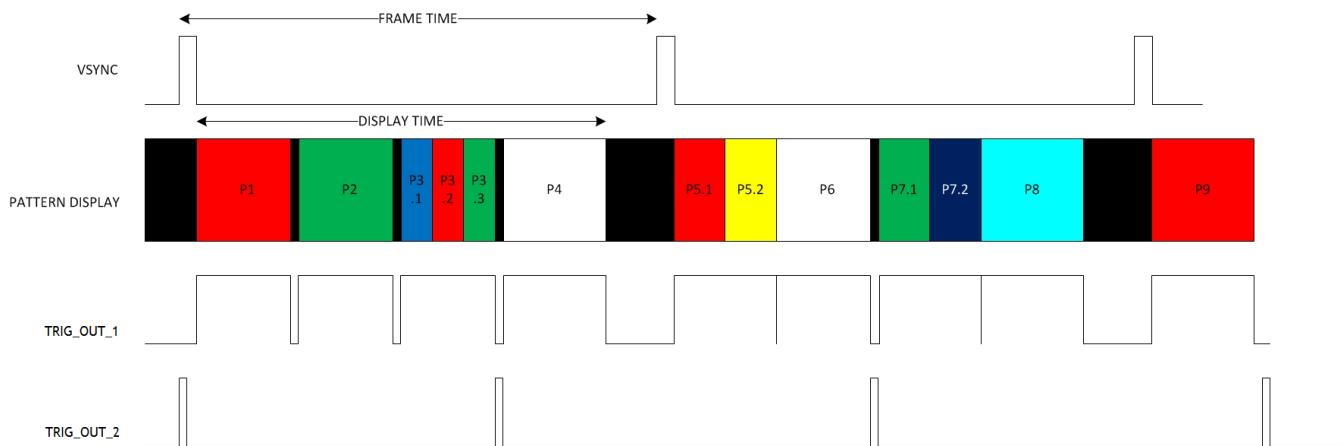
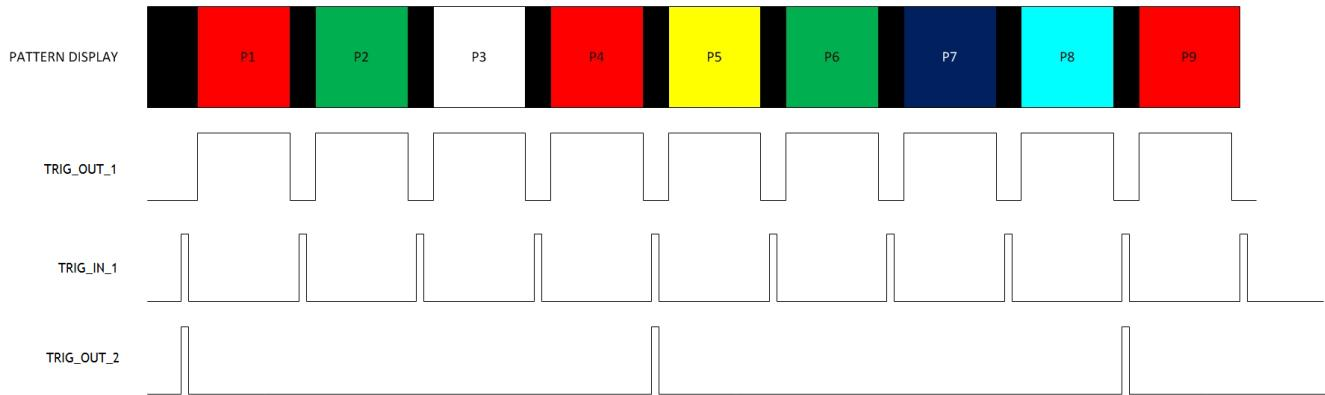

Figure 3-7. VSYNC Pattern Trigger Mode
Figure 3-8. External Pattern Trigger Mode
- examples of signals Figure 3-7 and Figure 3-8 show.
In pattern sequence mode, the 48 bit-planes can be preloaded from flash memory and then sequenced with a combination of patterns with different bit depths. To synchronize a camera to the displayed patterns, the DLPC350 supports two trigger inputs and two trigger outputs. TRIG_IN_1 pulse indicates to the DLPC350 to advance to the next pattern, while TRIG_IN_2 starts and stops the pattern sequence. TRIG_OUT_1 frames the exposure time of the pattern, while TRIG_OUT_2 indicates the start of the pattern sequence or internal buffer boundary of 24 bit-planes. For example, in Figure 3-7, the VSYNC starts the pattern sequence display. The pattern sequence consists of a series of three consecutive patterns. The first pattern sequence consists of P1, P2, and P3. P3 is an RGB pattern, it is shown with its time-sequential representation of P3.1, P3.2, and P3.3. The second pattern sequence consists of three patterns: P4, P5, and P6. The third sequence consists of P7, P8, and P9. TRIG_OUT_1 frames each pattern exposed, while TRIG_OUT_2 indicates the start of each of the three pattern sequences. In Figure 3-8, a pattern sequence of a group of four patterns are displayed. TRIG_OUT_1 frames each pattern exposed, while TRIG_OUT_2 indicates the start of each four-pattern sequence. TRIG_IN_1 pulses advance the pattern.